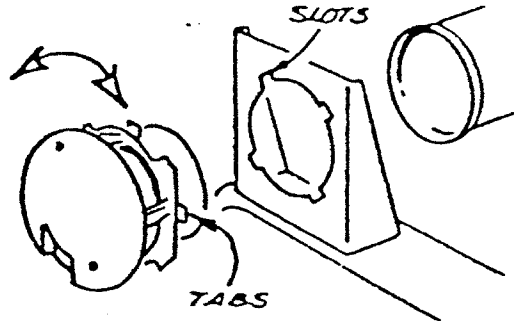

FIG. 6
5. Insert the Banks plastic bulkhead fitting through the bracket from the back side. The bulkhead fitting may be used as is, or the curved portion may be cut off if this lines up better with the factory air inlet duct. Fig. 6. shows where to cut the bulkhead if the curved portion is to be removed.